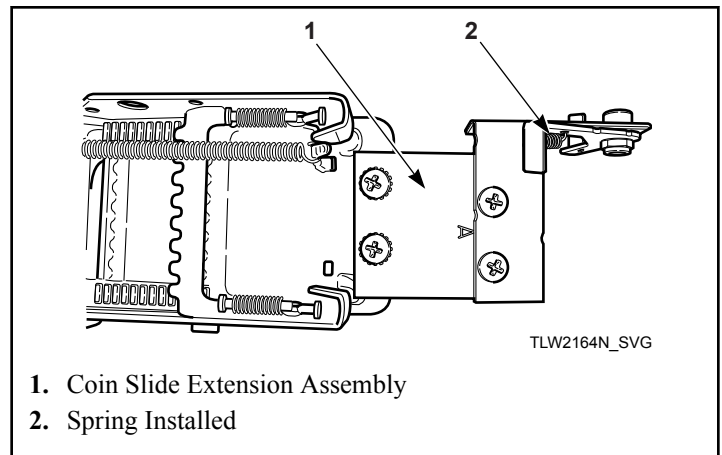

Figure 38
6. Install coin slide extension assembly onto top of coin slide using two remaining screws and lockwashers. Place lockwasher under head of screws, above bracket "A". Refer to *Figure 38*.
3. Install slide extension onto top of coin slide using two screws. Refer to *Figure 38*.